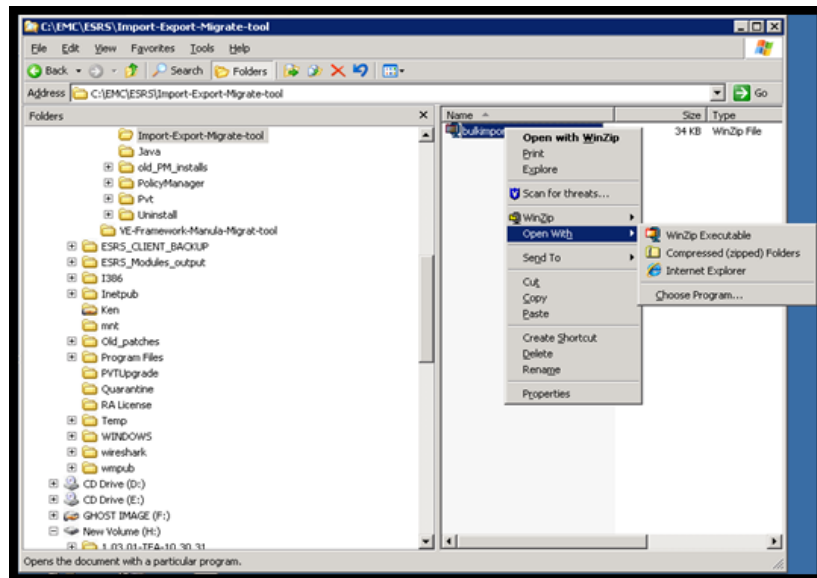

Figure 127 Uncompressing a file
- Copy the downloaded file to the directory and uncompress it, as shown in Figure 127 on page 102.